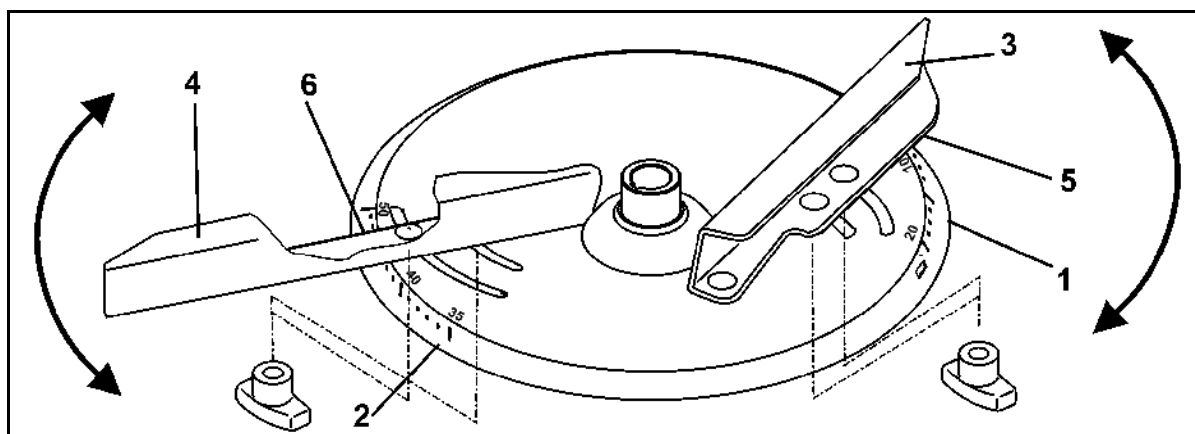

Fig. 43
Two different scales, designed so as to make it impossible to confuse them, are arranged on each spreading disc for precision setting of the individual spreading vane positions (Fig. 43/1 and Fig. 43/2).
- The shorter spreading vanes (Fig. 43/3) are assigned the scale (Fig. 43/1) with values from 5 to 28; the longer spreading vanes (Fig. 43/4) are assigned the scale (Fig. 43/2) with the values from 35 to 55.
- For the short spreading vane (Fig. 43/3), read off the set value on the read-off edge (Fig. 43/5).
- For the long spreading vane (Fig. 43/4), read off the set value on the read-off edge (Fig. 43/6).
- Swivelling the spreading vanes to a higher scale value (Fig. 43/1 or Fig. 43/2) increases the working width.